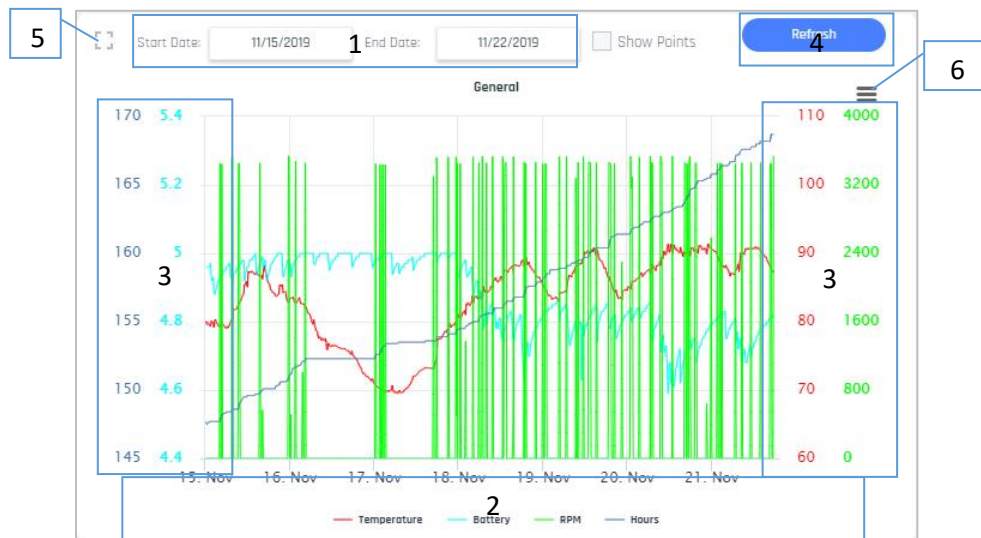

Figure 3
All of the trend graphs (Figure 3) have an adjustable date range (1), selectable parameter trends (2) automatically adjusting scales (3), a refresh button (4), a full screen button (5), and a chart context menu (6). Whenever a date range is set, all other trend graphs will default to that date range for the duration of your login session. Once you leave the Predict-Cloud the date range will reset to the previous 7 days. You can also drill down to a shorter time range by clicking and dragging with your cursor within the graph. By clicking on a parameter at the bottom of the graph, you can hide or show that trend, allowing you to view only the parameters you are interested in at that time. By clicking the chart context menu, you are able to choose what form in which to export data from the trend graph and date range you are viewing. The options are to print the chart, download the chart as a PNG image, download the chart as a PDF document, or export the data points as a CSV file.